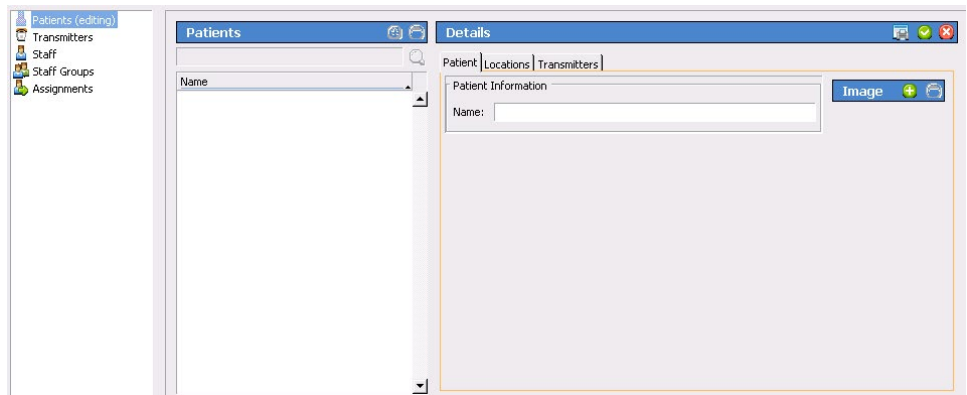

Figure 41: Event Monitor Patients Register
1. With the Event Monitor software running, click the **Registers** button in the lower right corner of the window. Click **Patients** in the Registers List if it is not already selected. The Patients register (shown in Figure 41) will open.